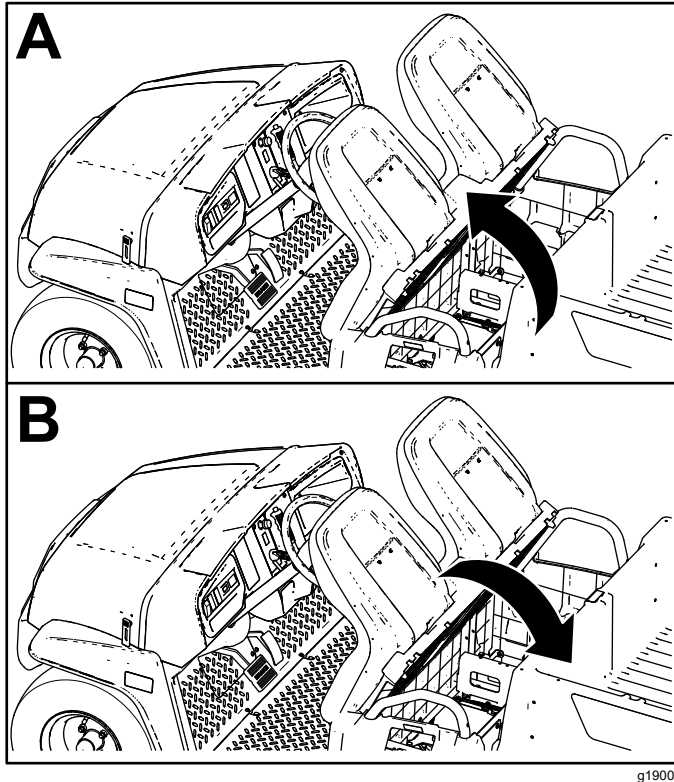

Figure 30
To raise the seat assembly, push the seat assembly forward until it rests on the steering wheel (Figure 30).
To lower the seat assembly, push the seat assembly rearward until it seats back into the original position (Figure 30).
1. Push the seat assembly forward to the raised position (Figure 30).